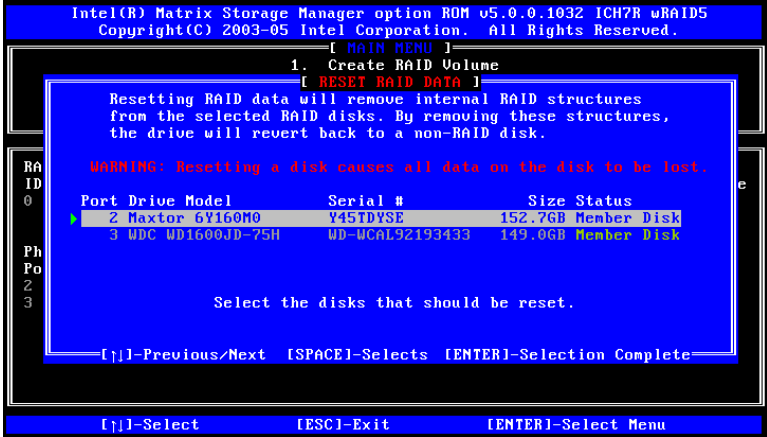

Figure F-13: Select Disk to Reset
**Step 2: Select Disks to Reset.** Use the arrow keys to scroll through the disk drives and press **SPACE** to select which drives are to be reset as non-RAID. After all the disks to be reset have been chosen, press **ENTER**. See Figure F-13.